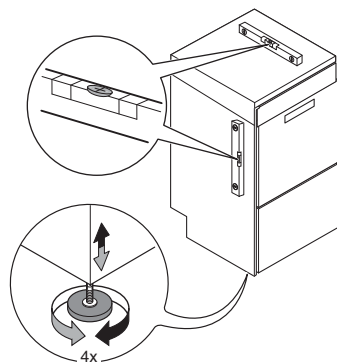

Figure 7 Feet adjustment
- Adjust the equipment by turning the special adjustable feet and making sure it is perfectly level, both lengthwise and crosswise (Figure 7).